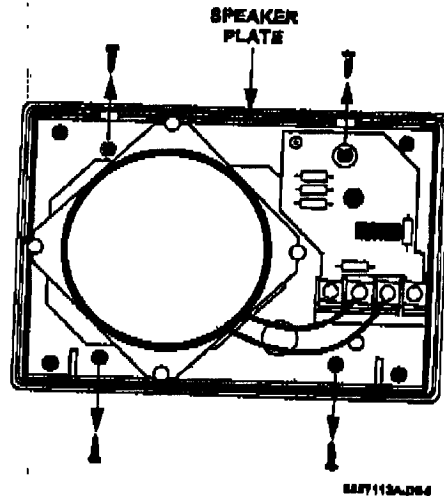

Figure 1. Removing the Speaker Plate
3. Remove the speaker plate screws and lift the speaker plate off the back box (see Figure 1).